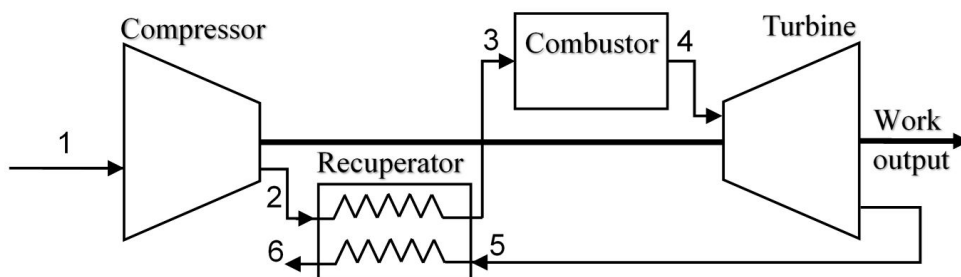

Fig. 1
1 A gas turbine has a power output of 2 MW . It uses a heat exchanger, known as a *recuperator*, between the turbine exit and the compressor exit to pre-heat the air before it enters the combustor, as shown in Fig. 1. The compressor has a pressure ratio of 3.0 and the inlet takes air from the environment at $p_1 = 1.0$ bar and $T_1 = 288$ K . The combustor inlet temperature is $T_3 = 540$ K and the turbine entry temperature is $T_4 = 750$ K . The turbine expands the air back to $p_5 = 1.0$ bar and there are no pressure drops in the recuperator or in the combustor. The turbine and compressor both have isentropic efficiencies of 0.90 . Treat the working fluid as air throughout, with perfect gas properties of $c_p = 1.01$ kJ kg⁻¹ K⁻¹ and $\gamma = 1.4$.
- (a) Calculate the temperatures at compressor exit and turbine exit and sketch the T - s diagram for the gas turbine, marking on the stations 1 – 6 shown in Fig. 1. [6]